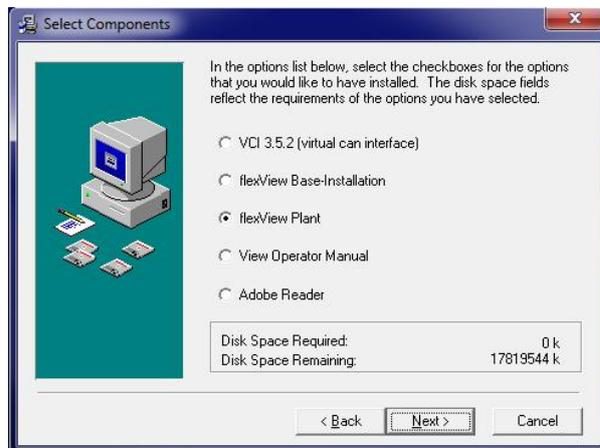

Fig. 4
- Select the **VCI** driver in the **Select Components** window and click **Next** (Fig. 4, Fig. 6).